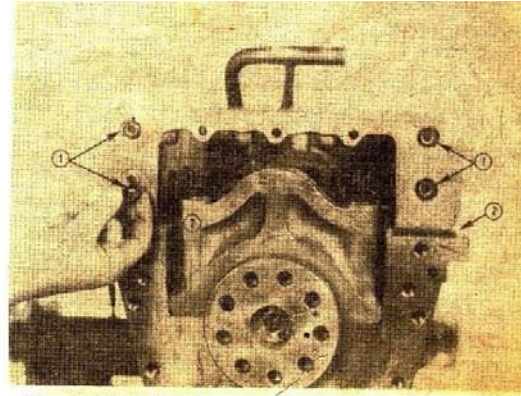

Fig. 14-40, Install the pan adapter to the flywheel housing seats
5. Use a suitable gasket adhesive. Install four (4) bolt seals (1, Fig. 14-40) and to (2) rectangular sealing strips (2) to the pan adapter (flywheel end).